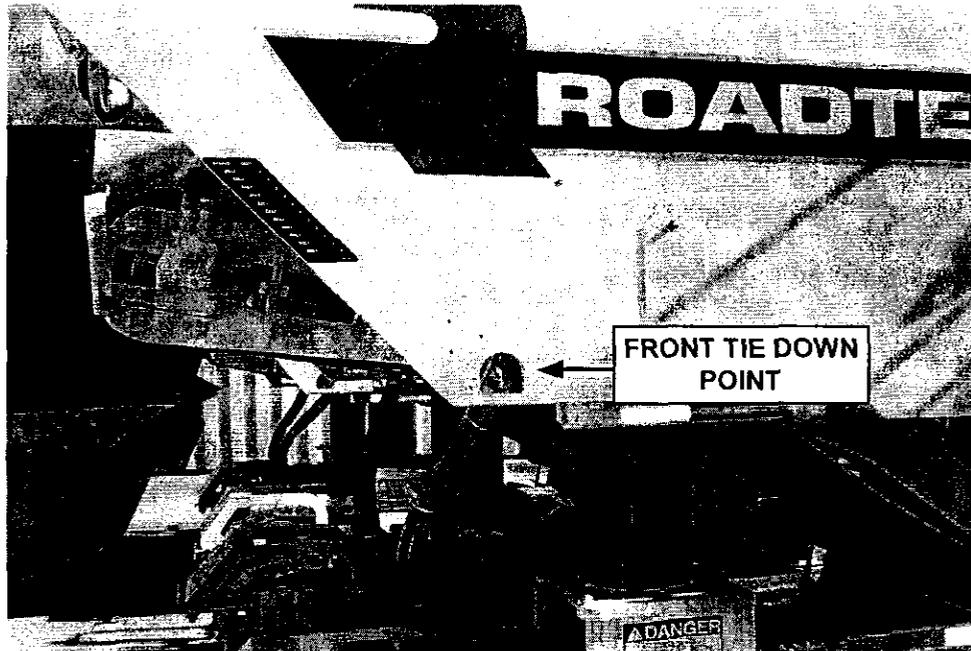

FIGURE 40
9. The machine is equipped with tie down points located on the front and rear corners of the machine. Use these tie down points as places to connect the towing chains as needed (figures 40 & 41).